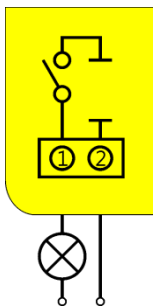

Fig. 7 Open Collector Output
Fig. 7 shows the connection of the first of the four open collector (OC) outputs of the DO4-O module.